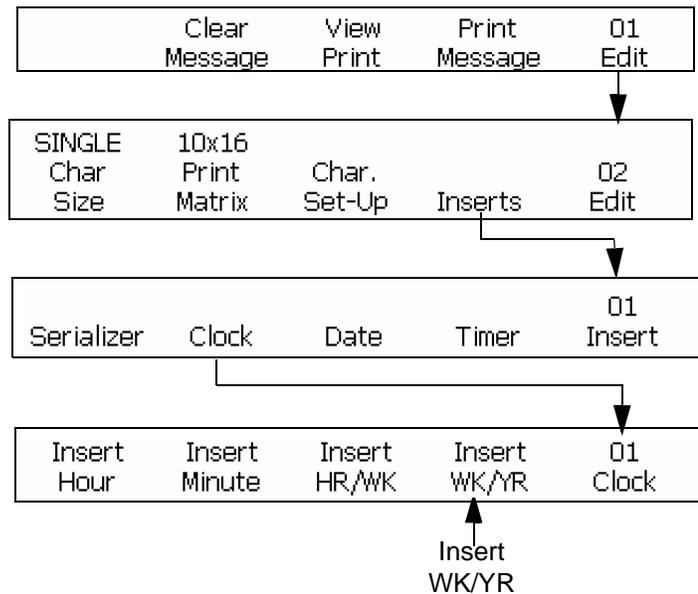

Figure 6-28: Accessing Frame <01 Clock>
- 1 Begin in the Frame <01 Clock>. Refer to Figure 6-28 on page 6-35.